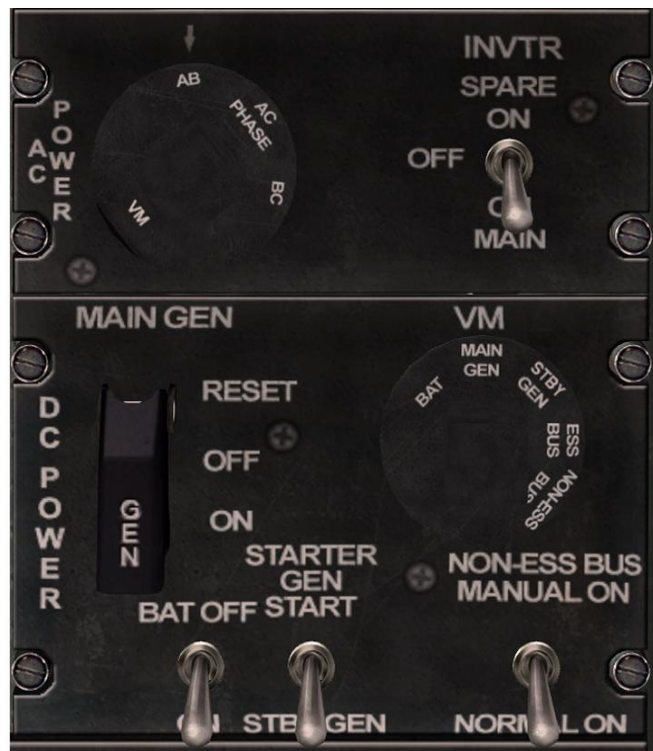

Figure 6.5. Overhead console AC and DC POWER panel.
A. MAIN GENERATOR SWITCH The MAIN GEN switch (Figure 6.5) is on the overhead console DC POWER panel. In the ON position the main generator supplies power to the distribution system. The RESET position is springloaded to the OFF position. Momentarily holding the switch to RESET position will reset the main generator. The OFF position isolates the generator from the system. The circuit is protected by the GEN & BUS RESET in the DC circuit breaker panel.
Alternating current is supplied by two inverters (Figure 6.2). They receive power from the essential bus and are controlled from the AC POWER control panel (Figure 6.5).